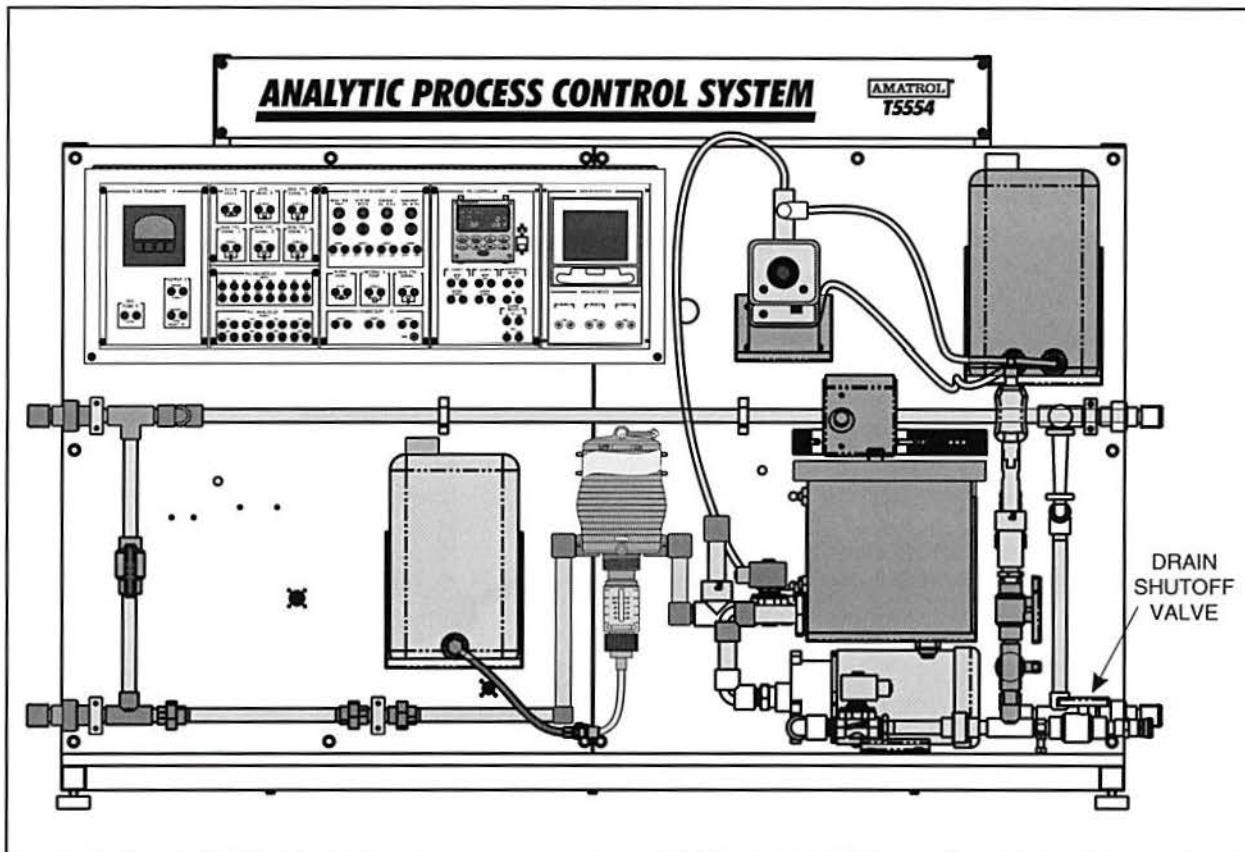

Figure 32. Drain Shutoff Valve
- A. If the tank needs to be drained, close the drain shutoff valve shown in figure 32. Observe the labels on the handle of the valve to determine the shutoff position.